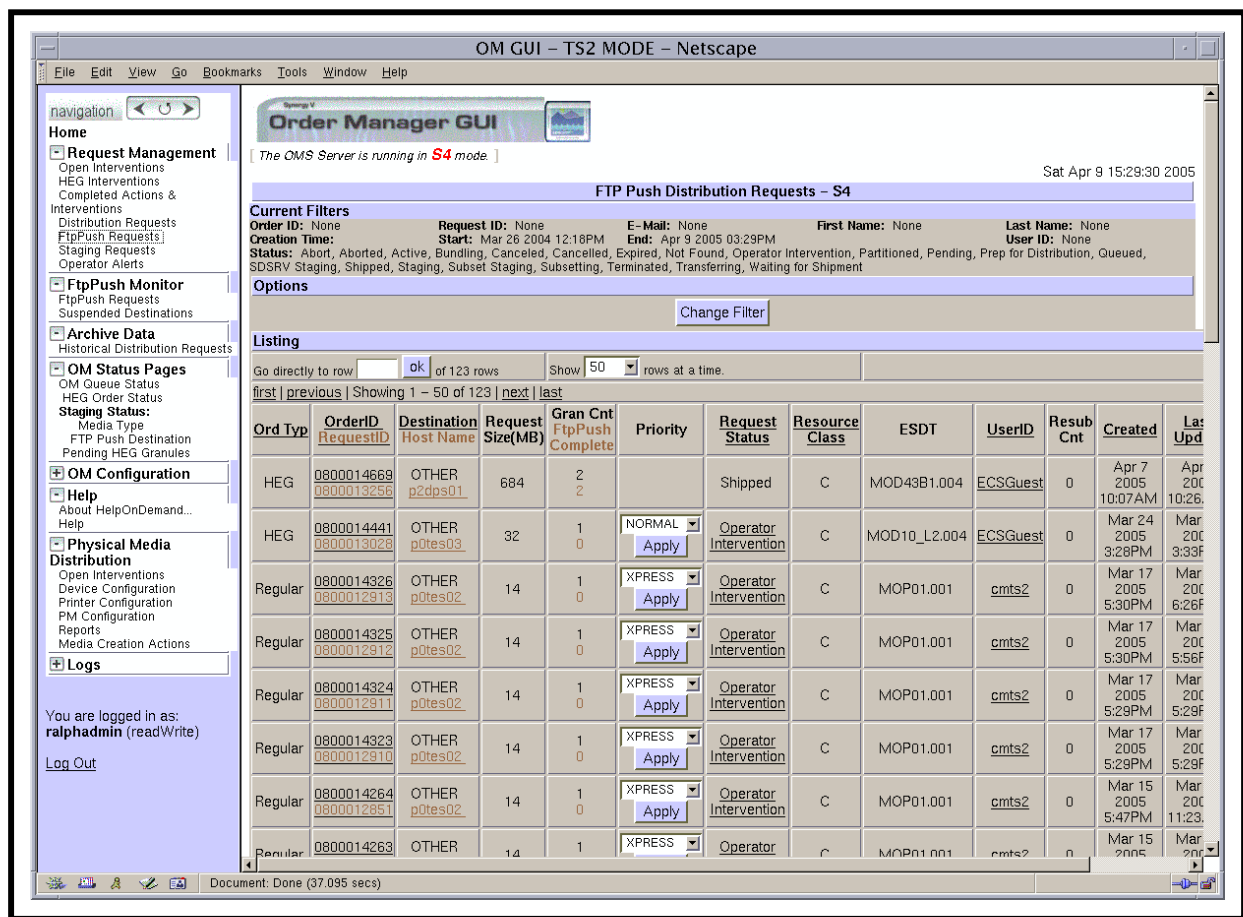

Figure 34. FtpPush Distribution Requests Page
- **FtpPush Distribution Requests** page (Figure 34).